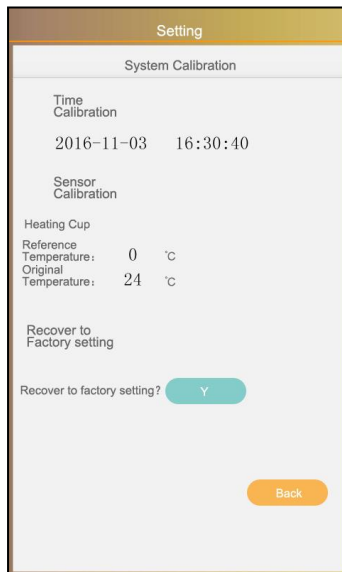

Figure 20
4.2.4.3 Choose [System Calibration] item, with interface as shown in figure 20.